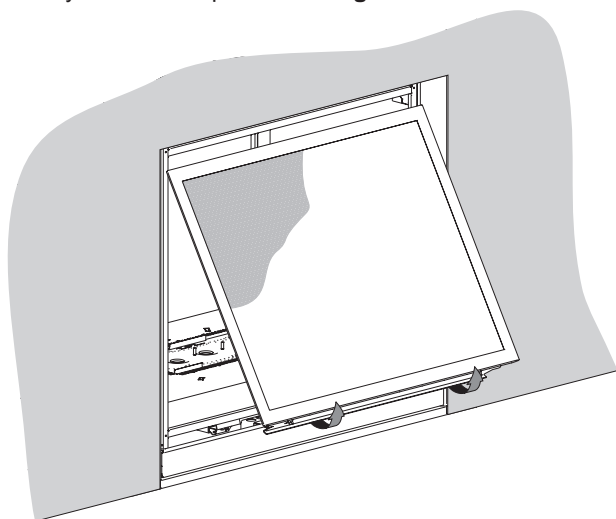

Figure 60
2. The two glass spring-latches are on the bottom of the glass frame. Release them by pulling them away from the fireplace and down. Remove the screen frame and glass frame as a unit (separating them is not necessary) by lifting them up and away from the fireplace. **See Figure 60.**